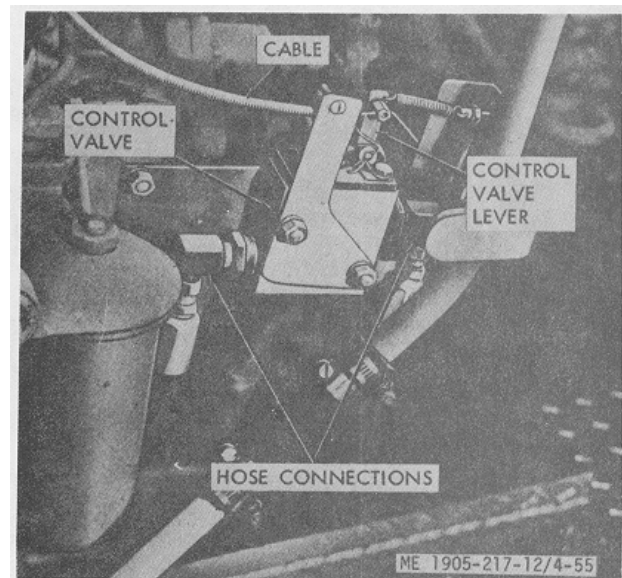

Figure 4-55. Hydraulic starting control valve, hull numbers 8520 thru 8539.
- (5) Remove solenoid valve from bracket.
a. *General.* This is a mechanically actuated control valve used to control the hydraulic starting motors on hull numbers 8520 thru 8539. The valves are mounted aft on the inboard engines and can be actuated at the valve by pushing the control lever or from the pilot house by pulling on the cable control. See figure 4-55.